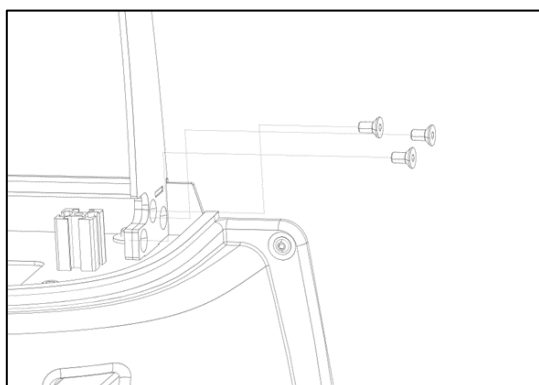

Fig. 8
6. Fasten the 3-counter sunk M8 x 16 screws (Fig. 8).